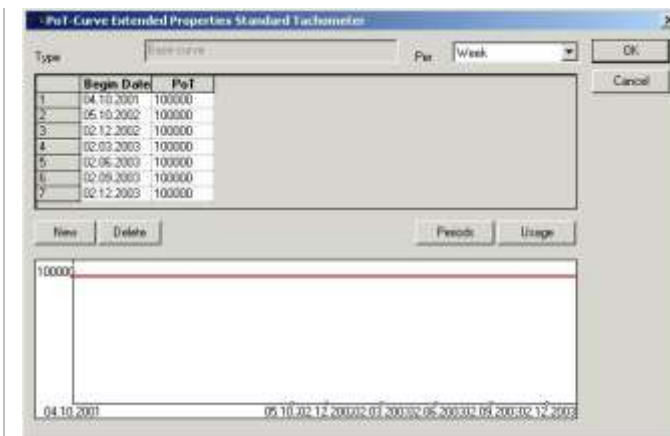

Figure 26: Dialog with New Editing Lines – Interval Method
- 5) Click **OK** to confirm the entries. The new editing lines are displayed in the dialog and are ready to be edited. *Please refer to the Figure 26.*